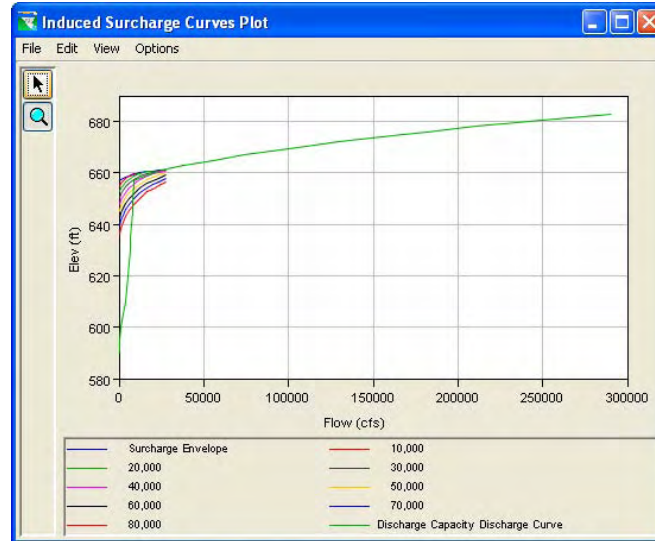

Figure 11.24 Plot of Computed Induced Surcharge Curves (with the Discharge Capacity Discharge Curve)
5. To see a **plot** containing the computed **Induced Surcharge Curves** (Figure 11.24) based on the data you have entered, double-click on the mini-plot located to the right of the table (or, you can right-click on the mini-plot and select **Show popup**).